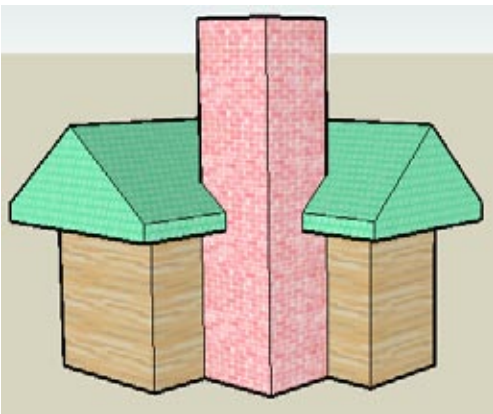

Figure 3-6
7. To replace the chimney, choose Edit→Unhide→All or Unhide→Last. You can see that the roof is cleanly cut and that no faces are hidden inside the chimney (Figure 3-6).